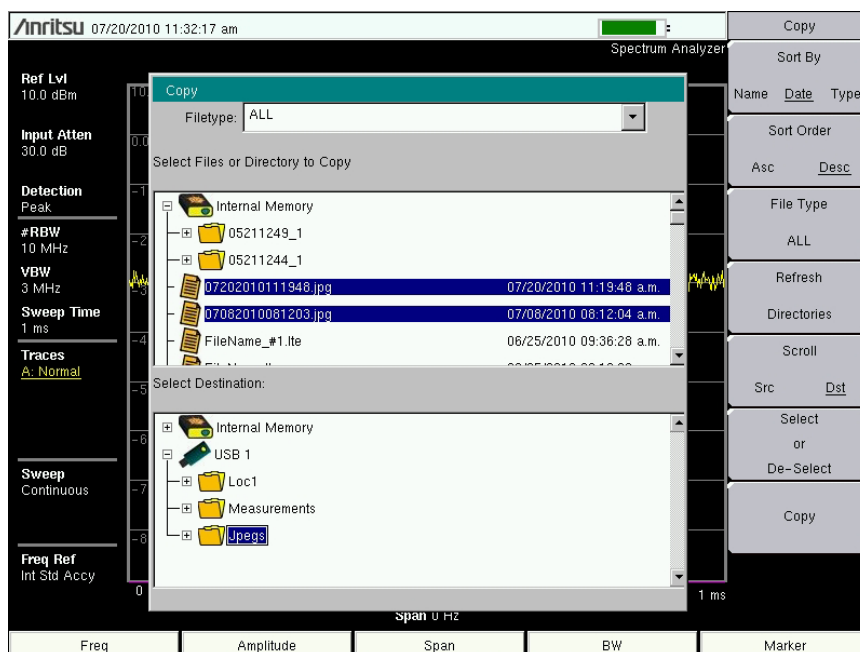

Figure 4-2. Two .jpg Files Ready to Copy from Internal Memory to the USB Drive, Jpeg Folder
The steps below detail copying a file from internal memory to an external flash drive. Select the files to copy in the top window and the location for the files to be copied to in the bottom window (Figure 4-2). Refer to the “Copy Menu” on page 4-12 for additional information.
3. Select the file(s) to copy. To select multiple files, highlight the first then press the **Select** or **De-Select** key to keep the file selected. The file will be outlined in blue (Figure 4-2). Repeat with all the files to copy.
| Copy | <p>This menu and dialog box is used to copy folders and files. Select folders or files with the Up/Down keys or the rotary knob. Figure 4-2 on page 4-3 shows the Copy dialog box with two Jpeg images selected and ready to be copied to the USB flash drive. Highlight a folder and press Enter or the Right arrow key to view the contents.</p> <p>Sort By: Press this submenu key to sort file and folder lists by name, by type of file, or by the date that the file was saved.</p> <p>Sort Order: Displays the folder or file in ascending or descending order based on the selection in the Sort By key.</p> <p>File Type: Press this submenu key to select what type of file to view for copying. The options are: ALL, Measurement, Setup, or Jpeg. The file type can be changed with the Up/Down keys or the rotary knob. Press Enter to make the selection.</p> <p>Refresh Directories: Press this key to update the display.</p> <p>Scroll: Press this submenu key to use the scroll function in the Source Window (Scr - top panel) or Destination Window (Dst - bottom panel). See Figure 4-2.</p> <p>Note: Previously saved files are not visible in this window.</p> <p>Select or De-Select: Use this key to select or deselect the file(s) or folder(s) to be copied. When selected, a file or folder will be outlined in blue, see Figure 4-2.</p> <p>Copy: Copies the files or folders selected in the top window to the destination selected in the bottom window. A dialog box will display showing when the copying is complete. If a file with the same name exists in the destination folder a warning box will display to allow file overwrite or to cancel.</p> |